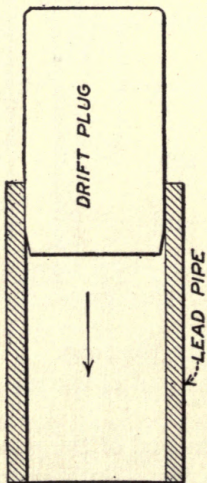

FIG. 18.
*Third*, take a  $1\frac{1}{2}$ -inch **drift plug** and drive through the pipe (Fig. 18).